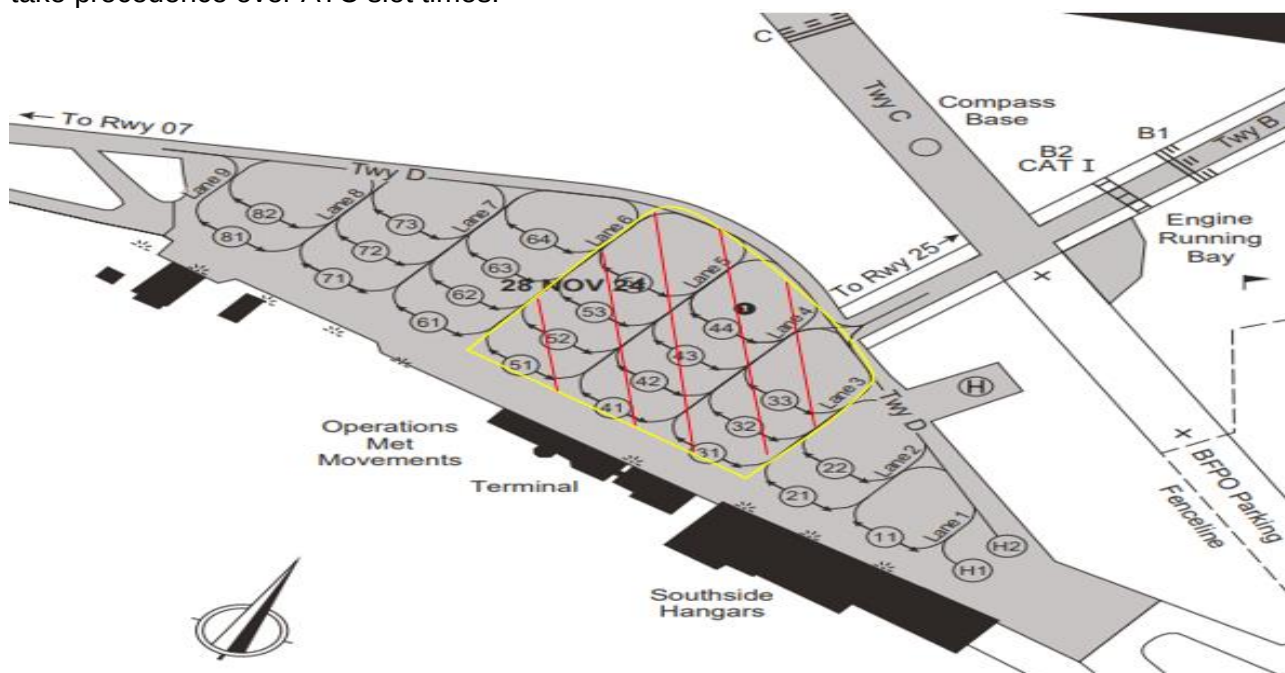

Figure 5 - Limited Noise and Movement Embargo Area
- Noise Embargoes and Flying Bans.** The impact of noise pollution on the local population requires careful management. In addition, certain occasions will require a noise, movement and/or flying embargo. A full noise and movement embargo is to be applied for Aircraft movements involving HM The King. At all other times a limited noise embargo for Aircraft movements involving all senior members of the Royal Family or a VVIP (in consultation with the Duty Air Movements Officer (DAMO)). In accordance with the parking plan, Movements will keep adjacent lines (see Fig 5 as an example) clear of Aircrafts APU/GPU activity during the embargo, in addition high powered ground runs are not to take place on the ASP while the embargo is in place (operational exemptions may apply at the discretion of the DAMO). The DAMO is to contact Station Operations if they are concerned that the embargo has not been initiated/ deactivated in a timely manner.